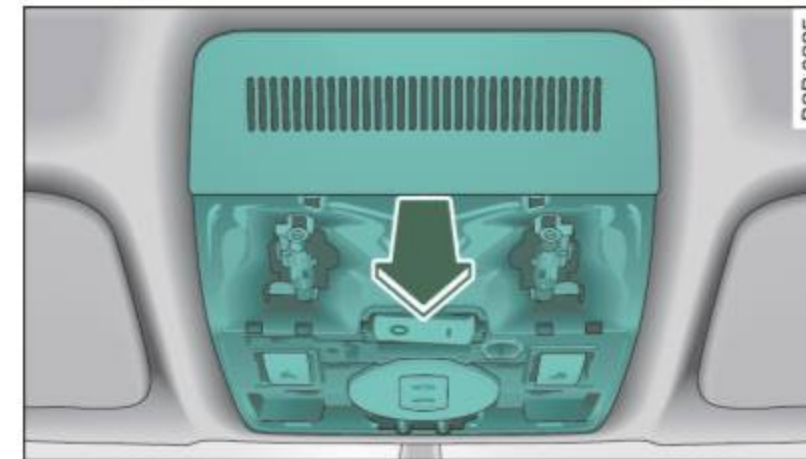

Fig. 63 Removing the light unit
- Pull the light unit out of the headliner by the front end (arrow) ⇒ fig. 63.